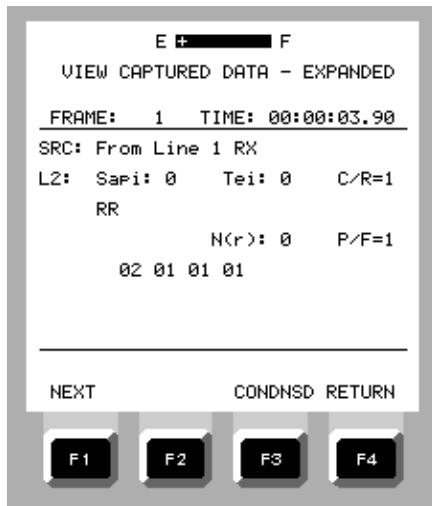
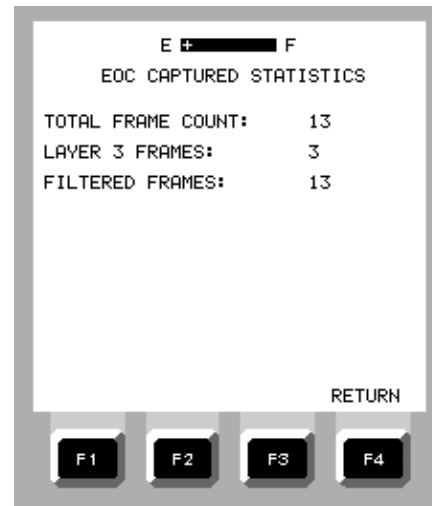
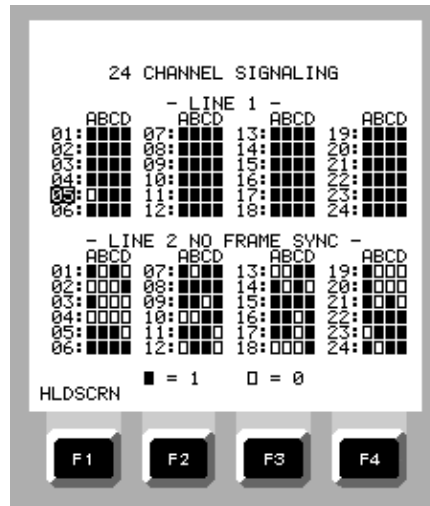
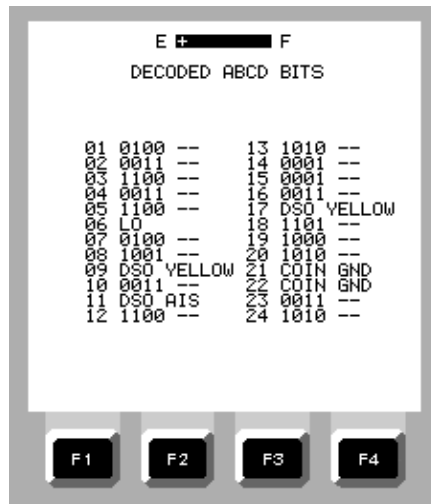

Figure 2-125. VIEW CAPTURED DATA - EXPANDED Screen (EOC)
Figure 2-126. EOC CAPTURED STATISTICS Screen
Figure 2-128. 24 CHANNEL SIGNALING Display
Figure 2-129. DECODED ABCD BITS Display
During capture, or after the capture is stopped, the EOC MONITORING menu displays the FRAME COUNT, FRAME ERRORS, and ELAPSED TIME of the data capture (Figure 2-125). By pressing F2 (VIEW) on the EOC MONITORING menu, the VIEW CAPTURED DATA -CONDENSED screen is displayed (same as Figure 2-120). By pressing F3 (EXPAND) on the "CONDENSED" screen, the VIEW CAPTURED DATA - EXPANDED screen is displayed (Figure 2-125). By pressing F3 (STATS) on the EOC MONITORING menu, the EOC CAPTURED STATISTICS display appears (Figure 2-126).
When HYBRID SIGNALING is selected on the GR-303 TEST ACCESS menu, the EZ-TESTER DS can display the ABCD signaling bits used for call processing messages including hook state, ringing control, coin control, ANI, and dial pulse digit transmission. The HYBRID SIGNALING SETUP menu (Figure 2-126) allows selection of the circuit type, using F1 through F4, and the service desired using the EDIT key. After circuit type and service have been selected, pressing the ENTER key enables the raw 24 CHANNEL SIGNALING display (Figure 2-128). Pressing F1 (HLDSCRN) on the 24 CHANNEL SIGNALING display freezes the display. Pressing F3 (DECODED) displays the decoded format (Figure 2-129).
2. On the DS1 MENU, move the cursor to SS7 CAPTURE / ANALYSIS and press ENTER. The display changes to the SS7 CAPTURE / ANALYSIS screen (Figure 2-129).